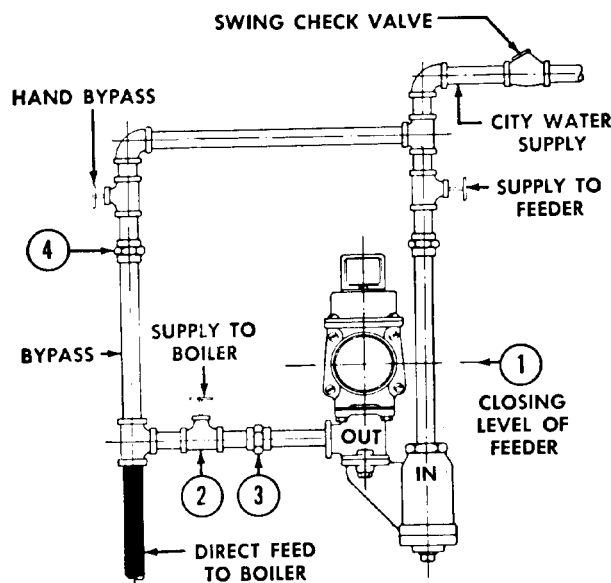
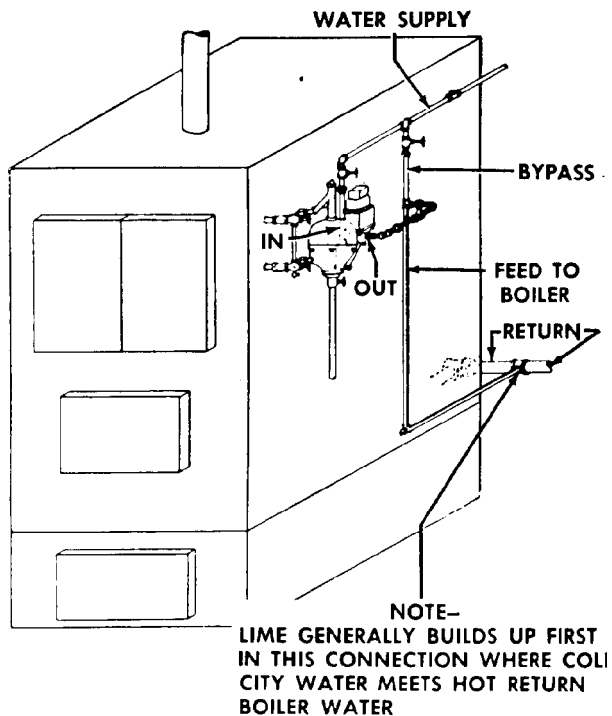

Figure 4-21. Boiler water feeder piping connections.
Figure 4-23. Stoppage area in boiler connection.
A boiler can have too much or too little water for many reasons. If a boiler is equipped with an automatic boiler water feeder and water level is not maintained correctly, do not assume that the feeder is faulty. Figure 4-21 shows a typical cold-water piping hook-up to the feed valve of a boiler-water feeder. Follow the procedure below if the boiler water level cannot be maintained.
(1) Make sure water in the boiler is above the closing level of the feeder.
(2) Close Valve 2 (figure 4-21) in the direct feed pipe from the feeder to the boiler.
(3) Break Union 3 between the feeder and Valve 2.
(a) The most common cause of too much boiler water is a partially plugged feed line. (See figure 4-23). A partial plug in the feed line causes back pressure when the boiler requires water and the feeder valve opens. Back pressure tends to hold the valve up off its seat, even though normal water level has been restored in the boiler. To determine whether partial plugging exists, open Valve 2 (figure 4-21) with Union 3 still broken. If there is no swing check in the pipe, boiler water should back out from the boiler in a full stream. A trickle-like flow will be proof of a partially plugged pipe.
(b) Another common cause of flooding is a leaky hand bypass valve. Break Union 4 (figure 4-21) with the bypass valve closed. If water leaks out of the union, install a new globe valve.
(1) Break Union 3 (figure 4-21) and open and close the feeder valve manually several times. (See figure 4-22.) Each time the valve lifts, a full stream of water should run from the broken union.
(2) If the valve cannot be easily operated manually, open the blow-off valve under the float chamber.
(3) With the blow-off valve open, if little or no water passes through the valve, it is an indication that the float chamber is loaded with mud and sediment which prevents the float from dropping and the feeder valve from opening.
(4) Open the float housing and clear out all foreign matter. Operate the valve manually as before and the feeder should feed a full stream of water.
(5) The broken union test may show that the feeder is in good condition but still does not feed water into the boiler. The feedline shown in figure 4-23 may be fully plugged, especially where the connection is made to the return header or bottom of the boiler.
(6) If little or no water comes through the feeder valve when operated manually, remove and clean out the strainer. The strainer may be filled with sediment which prevents water from getting to the feeder.
(7) Other common causes for insufficient water in the boiler are: